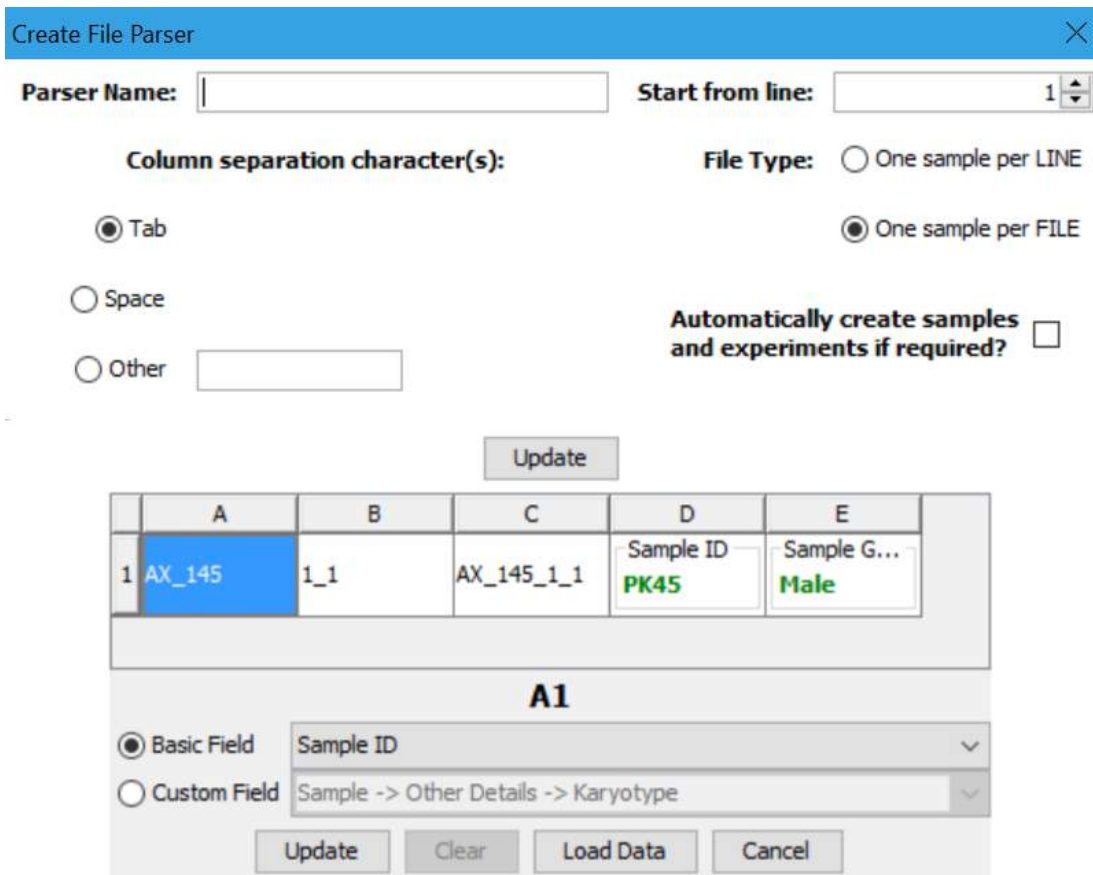

Figure 2: Create File Parser window.
4. In the **Create File Parser** window (e.g. Figure 2), configure the parser as required for your file format.
- f. Click the **Update** button in the middle of the screen. The data should be displayed below, without headers. If **One sample per LINE** was selected only the first data row should be displayed, as seen in Figure 2.
- iii. Click the **Update** button at the bottom of the screen. Upon doing this, as shown in Figure 2 columns D and E, the cell data should turn green and become surrounded by a border labelled with the field type. If the data turns red then there is a problem, most likely that the data type is not suitable for the field chosen.